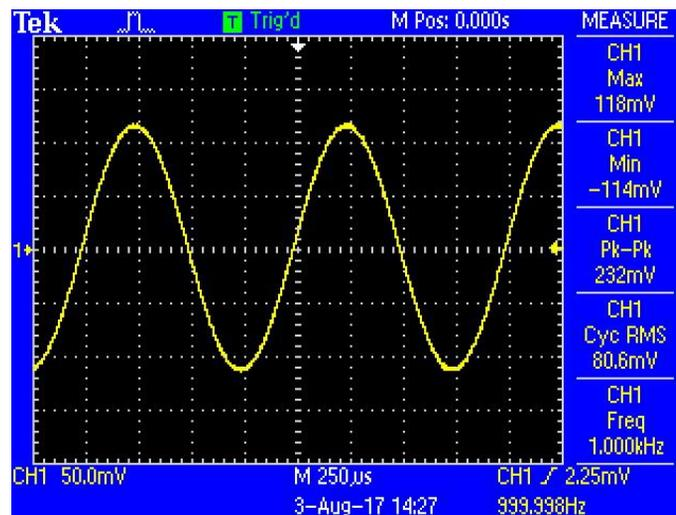

Fig.58 Parameters of the measured signal
3. Turn on the function signal generator and set “Function: Sine”, “Amplitude: 80mVrms”, “Frequency: 1kHz”, “Output Impedance: High Z” as Fig.58.